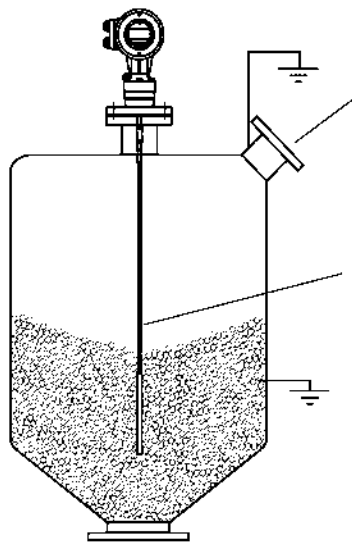

Figure 17
**⚠️ Note:** ESD problems are not solved by Flexar probe ESD protection. It is the customer's responsibility to avoid ESD by grounding the vessel, material and Flexar probe installation as illustrated in Figure 17.